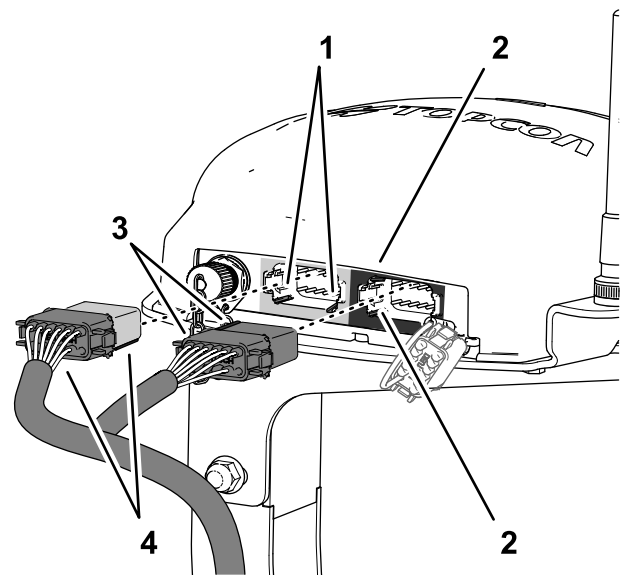

Figure 197
3. Align the 2 keys at the long face of the gray and black 12-socket connector of the data harness with the 2 key slots in the bottom, horizontal wall of the left (gray) 12-pin connector of the navigation receiver (Figure 197).
4. Connect the gray and black 12-socket connector of the data harness into the left (gray) 12-pin connector of the navigation receiver until the connector locks snap together securely (Figure 197).
5. Align the 2 keys at the short side of the black 12-socket connector of the data harness with the 2 key slots in the left, vertical wall of the right (black) 12-pin connector of the navigation receiver (Figure 197).
6. Connect the black only 12-socket connector of the data harness into the left (black) 12-pin connector of the navigation receiver until the connector locks snap together securely (Figure 197).